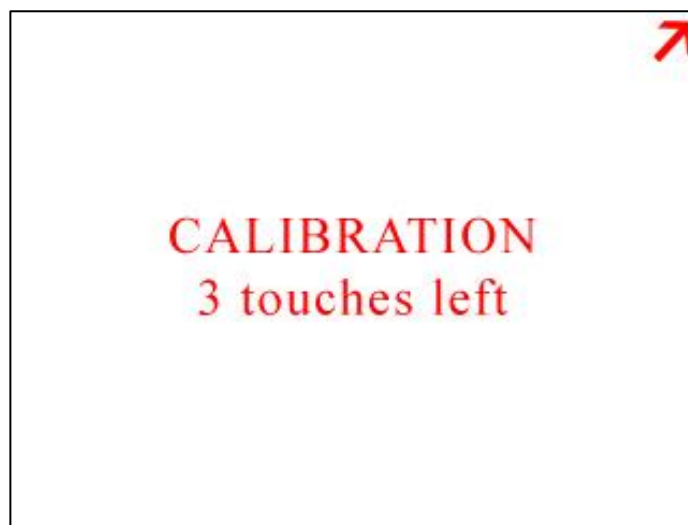

Figure 6-43 Alignment Screen 2
- At the next screen, touch the arrow displayed in the upper right corner. This need to be done a total of three times before continuing to the next alignment. See Figure 6-43.